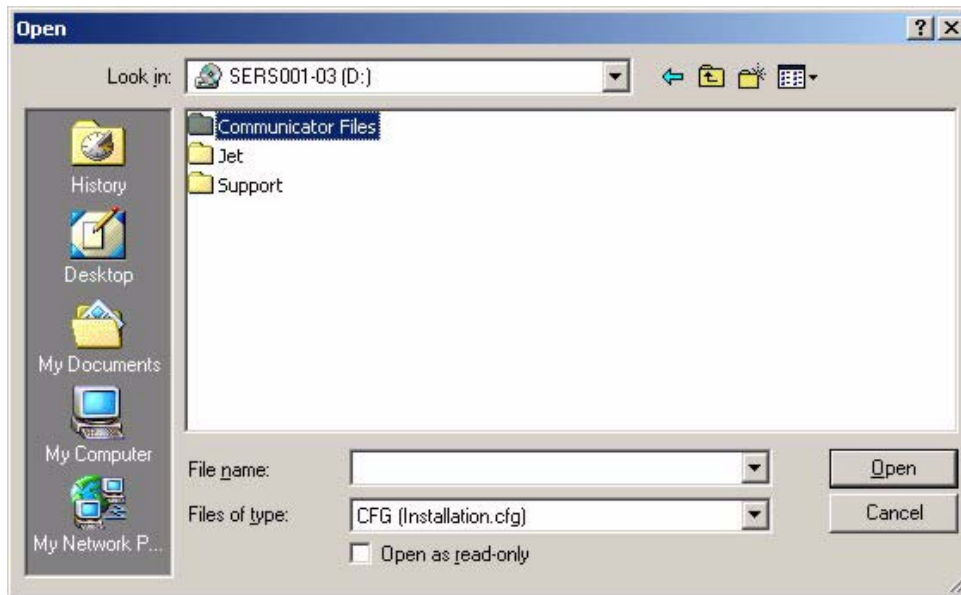

Figure 73 - Communicator Software Installation - Locating Communicator Files on the CD ROM
2.16 Click **OK**, and the **Open File** dialog box is displayed (refer to Figure 73).